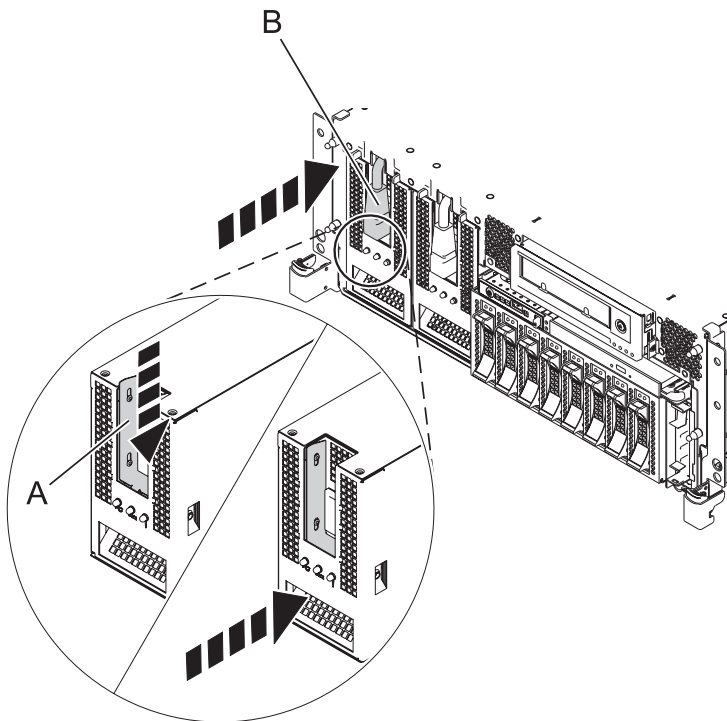

Figure 4. Replacing a power supply
4. Push the power supply into place until the locking latch (A) snaps into place as shown in Figure 4.